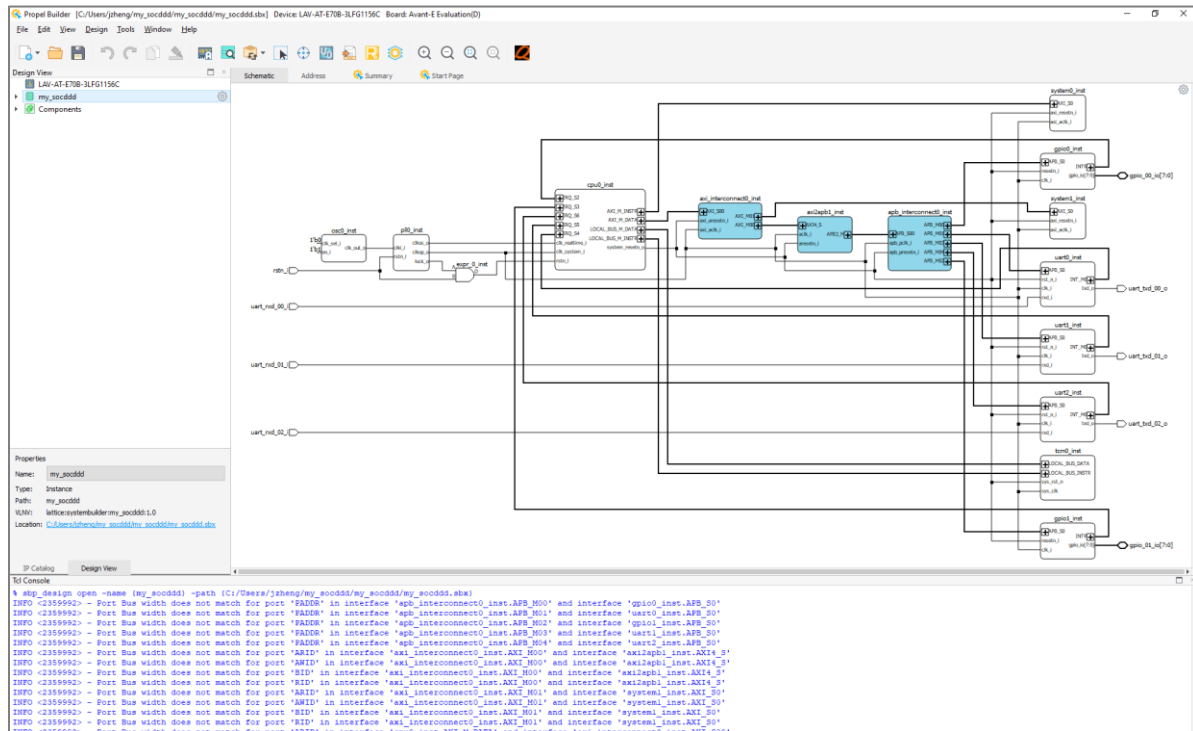

Figure 2.30. Scalable Wizard – Project Create Success
7. The SoC design project is successfully created for Scalable Design (Figure 2.30).